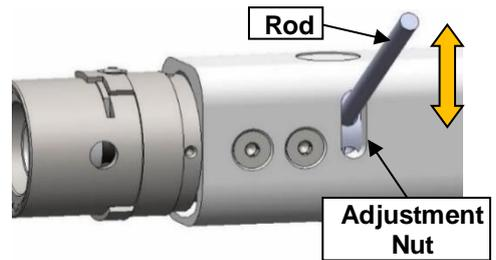

Figure 23
- A 4mm Dia x 110mm long rod, supplied with the spring arm, should be inserted into the adjustment hole. See Figure 23